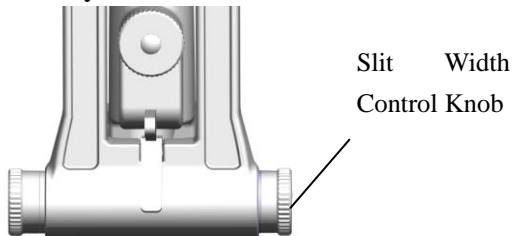
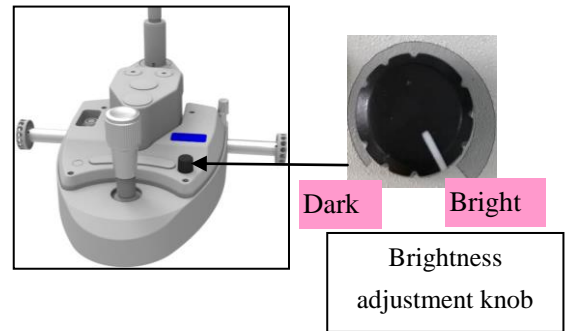

Figure 2.4.1
Figure3.1.2
2. Insert the focusing test rod (Fig. 2.1.7) and turn the slit width control knob (see Figure 2.4.1). The illumination spot should be observed on the black plane of the focusing test rod. The brightness change of the illumination should be observed when rotate the brightness adjustment knob (see Figure 3.1.2)
5. The brightness change of the illumination should be observed when rotate the brightness adjustment knob (see Figure 3.1.2)
Turn on the main power switch and turn the brightness adjustment knob to the middle (see Figure 3.1.2). Adjust the slit width adjustment knob (see Figure 2.3.1) to make the slit width 2 to 3 mm.